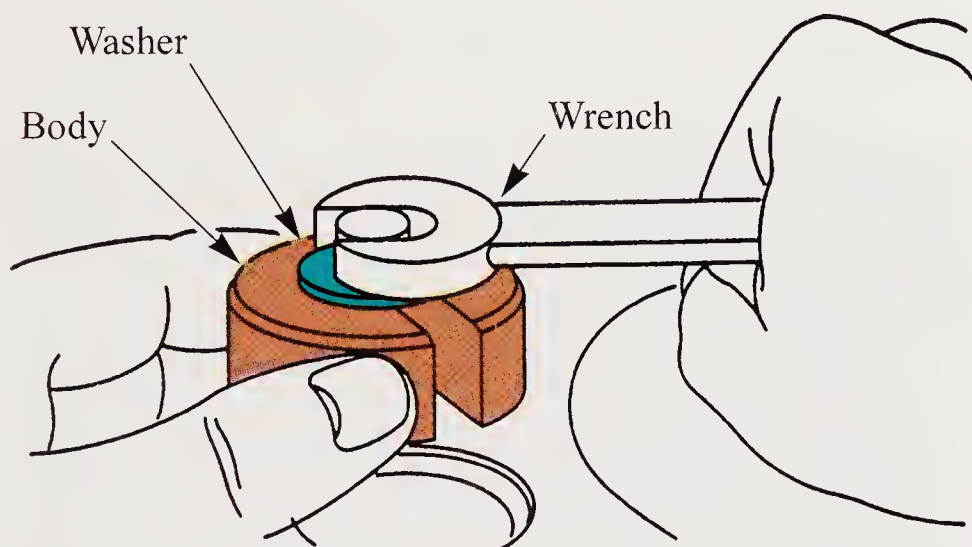

Figure 17-55. When the nut on the puller is tightened with a wrench the insert is pulled up and out. (Briggs & Stratton Corp.)
4. Turn the bolt with a wrench until the insert is pulled out of the cylinder. See **Figure 17-55**.